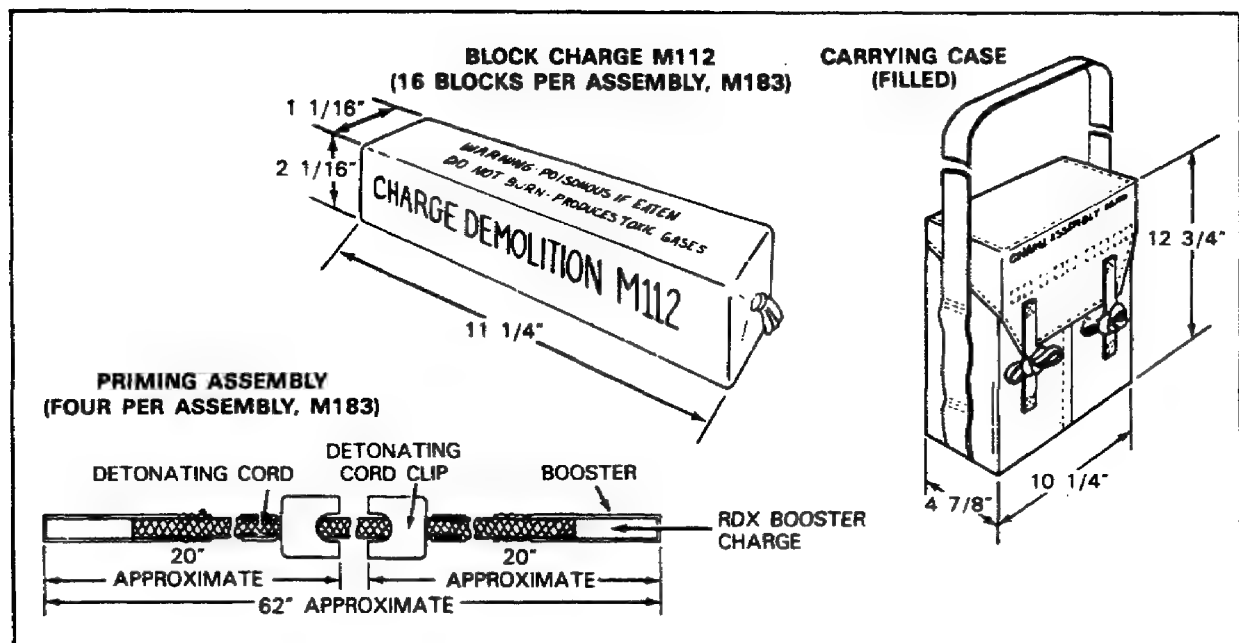

Figure 83. Charge Demolition Assembly, M183.
**Charge Demolition Assembly, M183.** See Figure 83. The charge, demolition block, M112 consists of 1 1/4 pounds of composition C-4 in a mylar-film bag. The bag is olive drab with yellow markings and has pressure-sensitive adhesive tape on one surface for quick placement. The explosive can be removed from the bag and hand formed to any shape desired. This charge is ideal as a cutting charge and for other combat demolitions. There are 16 M112 blocks per assembly and two assemblies packed to a wooden box. The M112 block is also issued packed 30 charges to a wire-bound wooden box.